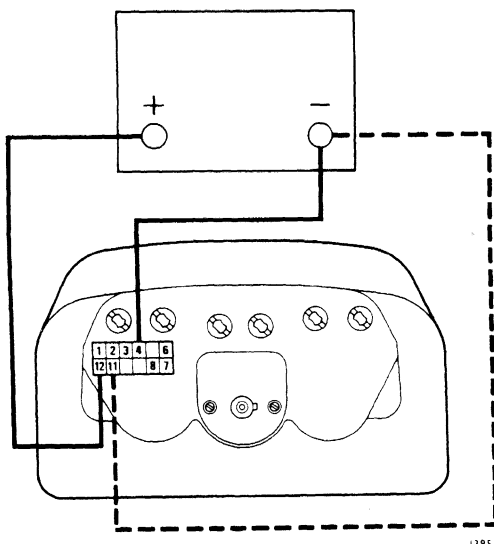

Fig 18 - Fuel gauge test
69 The fuel and water temperature gauges can be checked without removing them from the assembly by withdrawing the assembly from the instrument panel, removing the wiring harness multi-socket connector and substituting a test socket with test wires connected to terminals (4), (8), (11) and (12) as shown in Figs 18 and 19.
70 To test the fuel gauge, connect terminal (12) to the supply positive and terminal (4) to negative (Fig 18). The gauge pointer should move to the 'F' position. With the test wires still connected, connect terminal (11) to the supply negative, when the gauge pointer should move to the 'E' position.